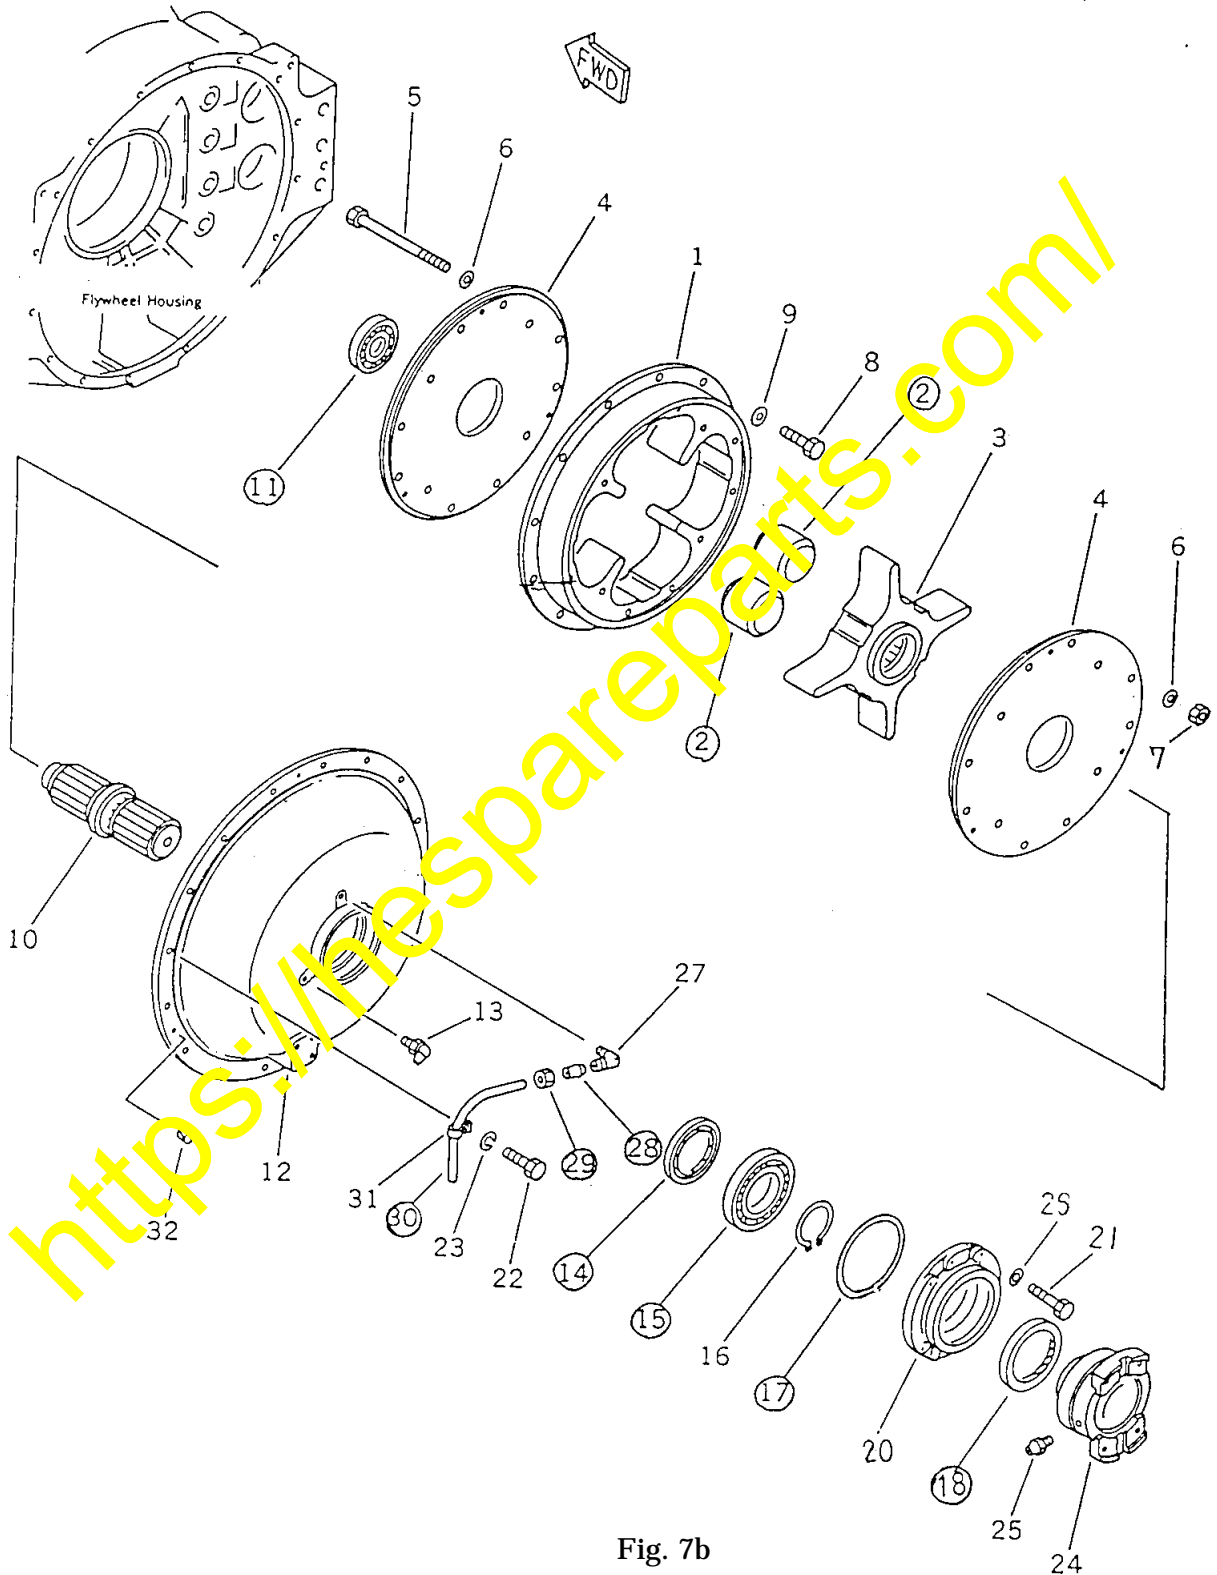

Fig. 7b
- (3) The output shaft assembly (561-01-12001 or 561-01-12002) and its component parts are as shown in Fig. 7b below and in the list following.